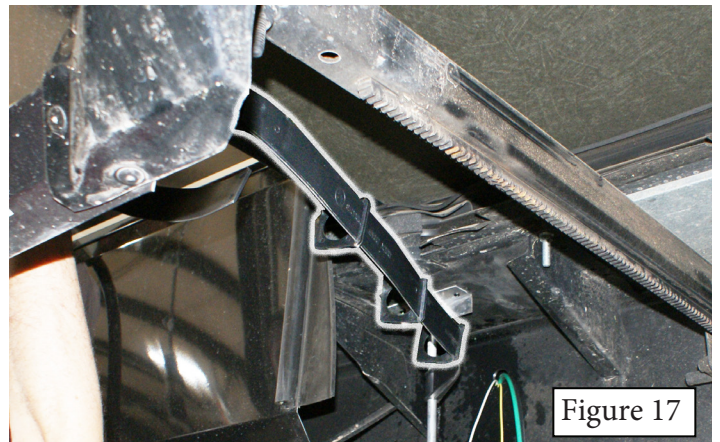

Figure 17
23. Extend the Flex-Guard arm out to the wheel well support bracket and cut excess off (approximately 16") (Figure 17).